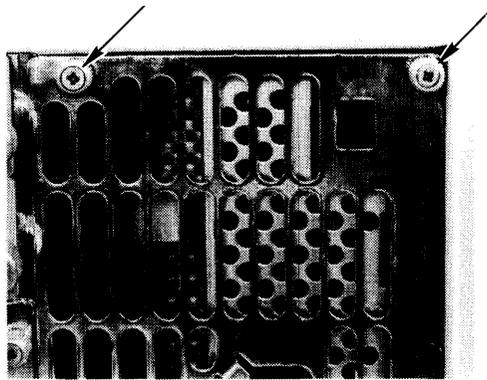

Figure 2-4. Power Supply Access Cover Screws
1. Unscrew the two captive screws holding the power supply access cover in place. Refer to Figure 2-4.